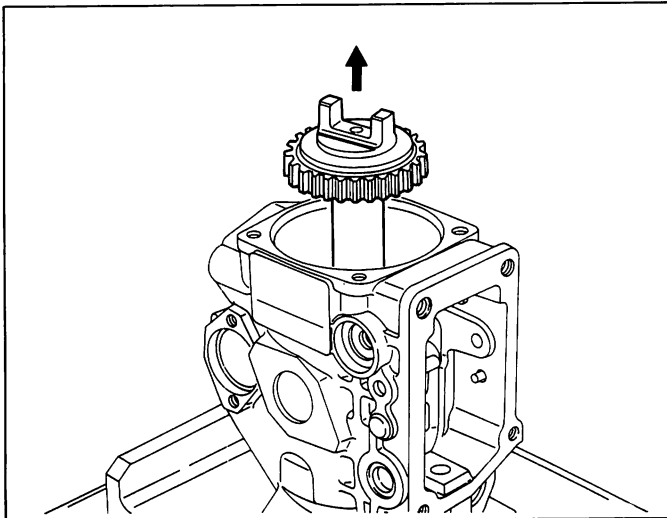

Fig. 30 Removing the drive shaft
33. Extract the drive shaft together with the gear (12/4), rubber dampers (12/3), washer (17) and woodruff key (12/2). (Fig. 30)